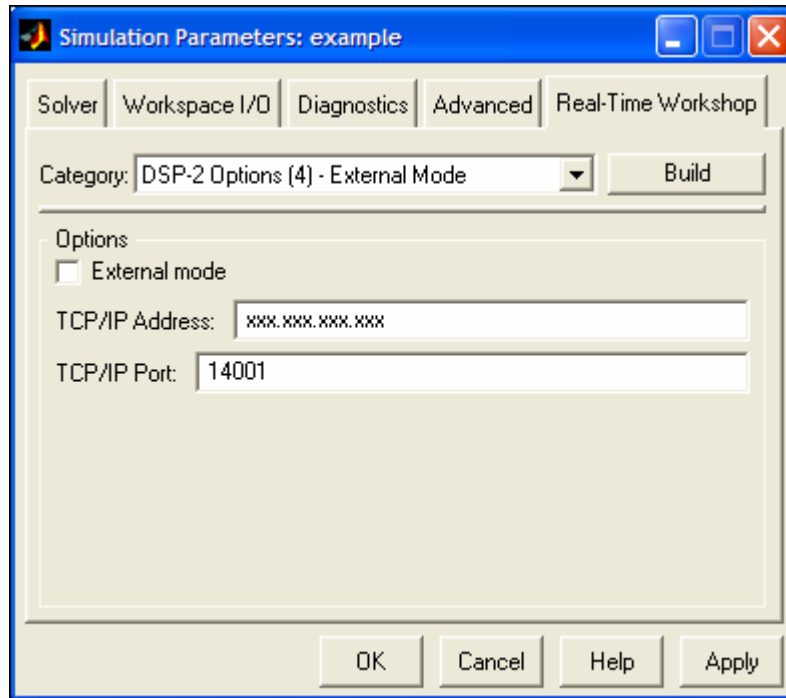

Figure 19: DSP-2 options (4)
DSP-2 options (4) (External mode) (Figure 19)